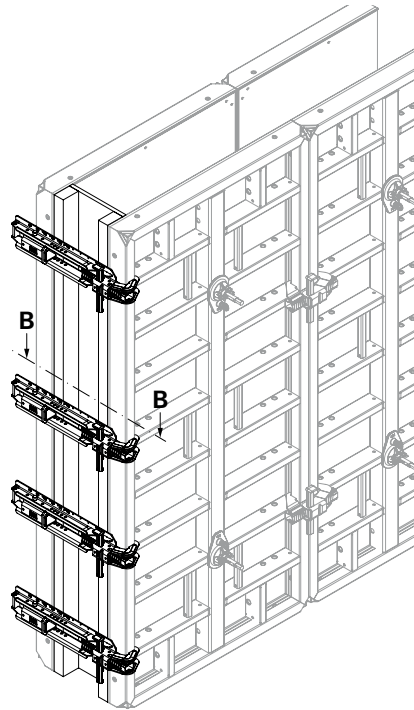

Fig. B10.03
- Perm. fresh concrete pressure 80 kN/m2 (Fig. B10.03)